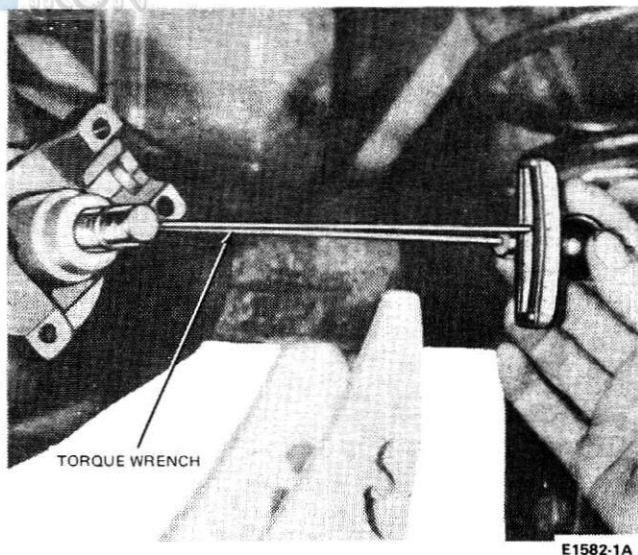

FIG. 6 Checking Pinion Bearing Preload
3. Install an in-lb torque wrench on the pinion nut (Fig. 6). Record the torque required to maintain rotation of the pinion shaft through several revolutions.